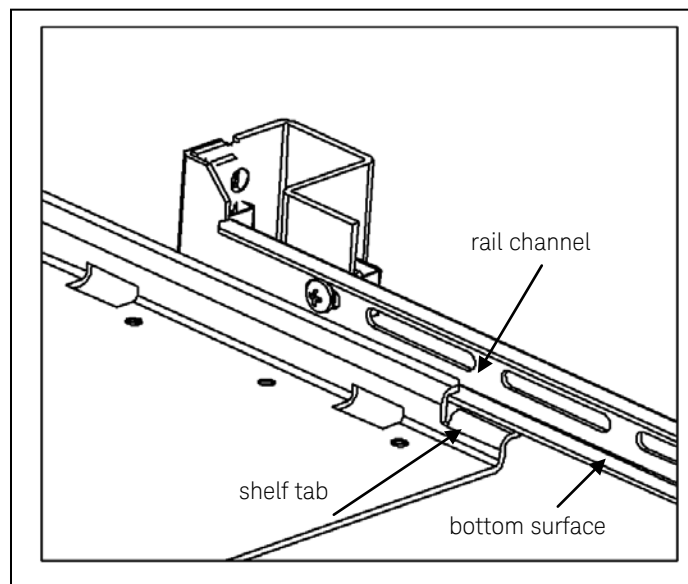

Figure 4. Installing the Sliding Shelf
Facing the rack, slide the shelf (item 7) onto the bottom surfaces of the rail channels. The tabs at the back of the shelf pass underneath the channel surface (Figure 4). The tabs allow you to extend the shelf from the cabinet, providing a working surface for mounting the instruments.